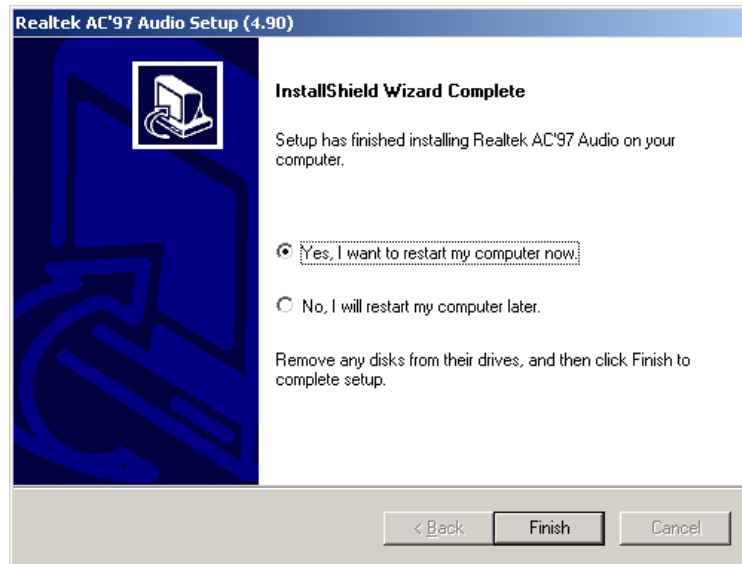

Figure 7-48: Restart the Computer
Step 14: After the driver installation process is complete, a confirmation screen appears (Figure 7-48).